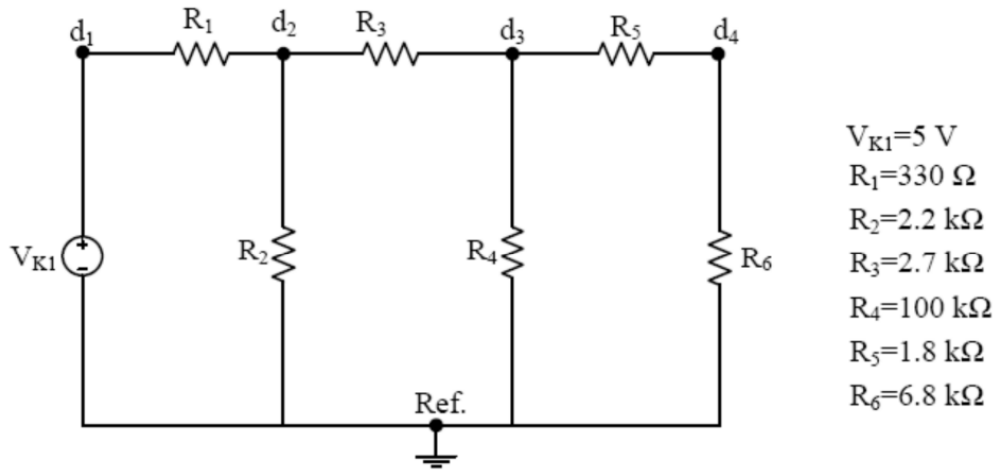

Figure 3:
- **The Most important preparation:** Simulate the circuit in Figure 3 and compare your measurements with the calculated by-hand results in Tables 4 and 5.
2. Construct the circuit given in the Figure 3 to the breadboard, fill the Table 4 and 5 according to your measurements.